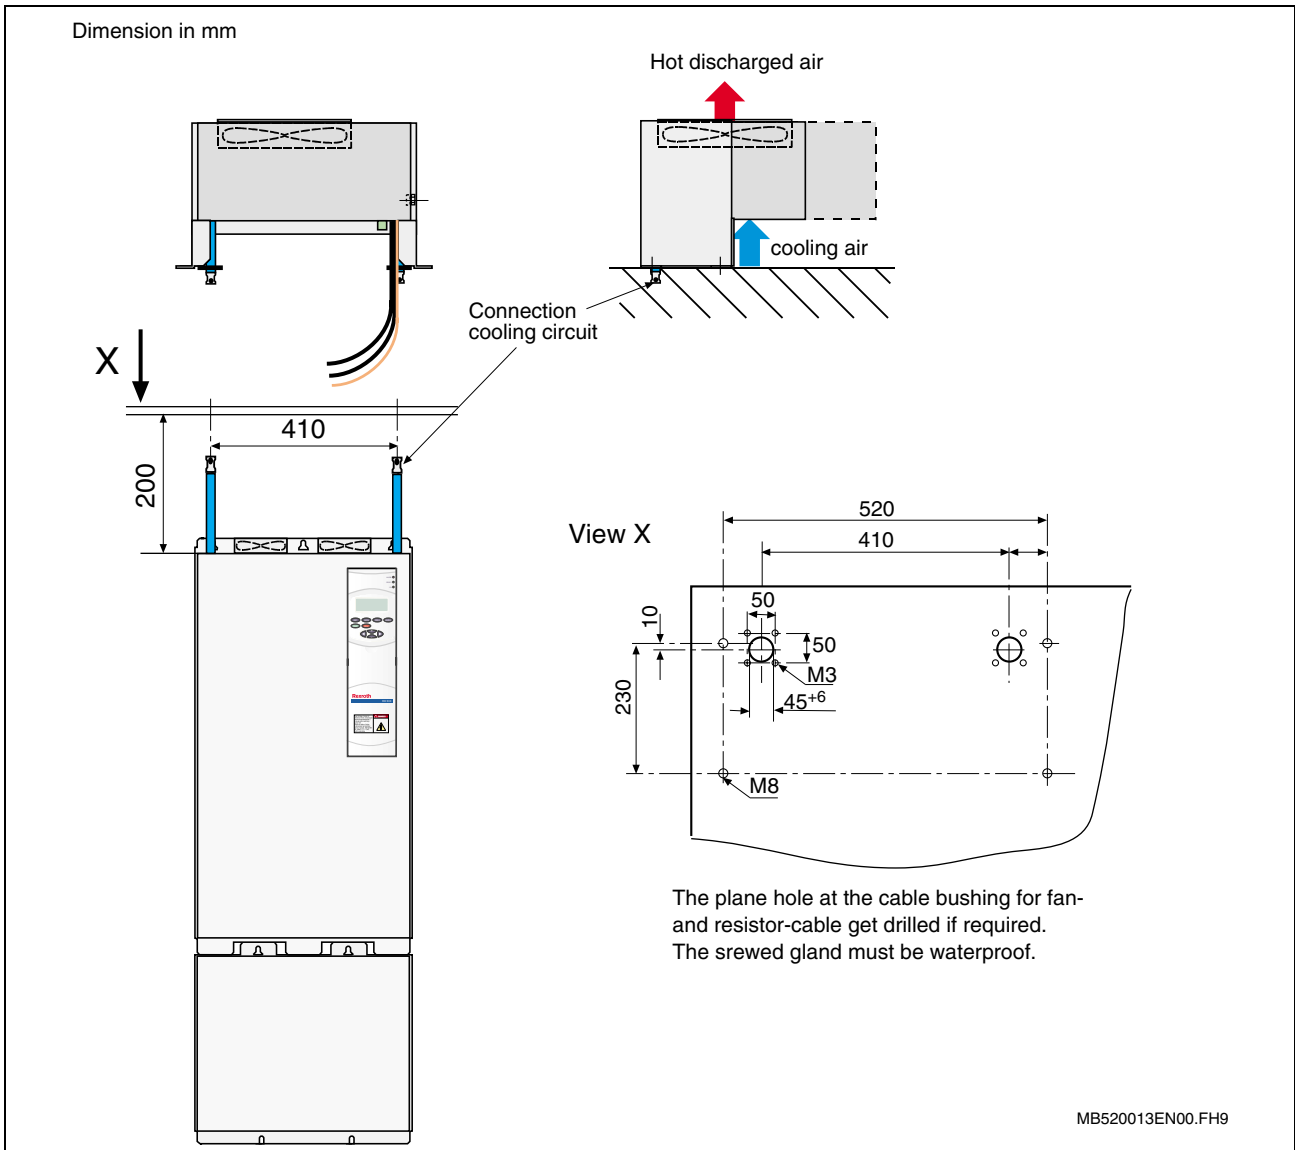
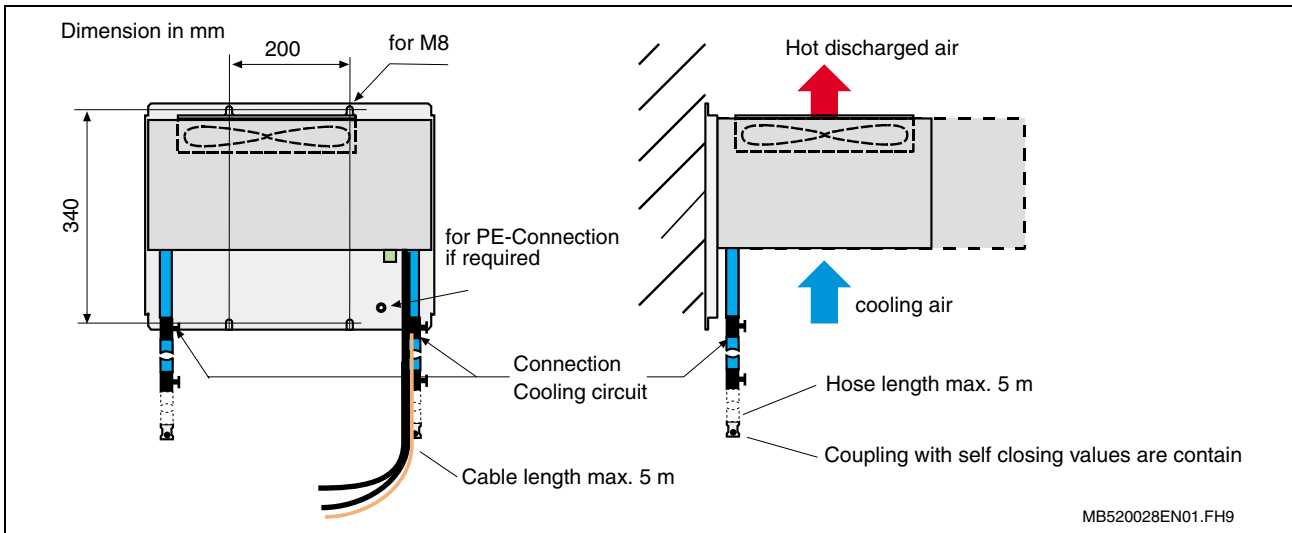

Fig.: 3-51 Dimension sheet for cabinet roof mounting, size class G
Fig.: 3-53 Dimension sheet for wall mounting
- Attach the external heat exchanger to the desired location. This can be mounted on the roof or wall of the cabinet. See Fig.: 3-51 Dimension sheet for cabinet roof mounting, size class G Fig.: 3-53 Dimension sheet for wall mounting. Additional technical data are described in documentation DOK-RD500*-RD500*SUPPL-FKxx-EN-P (Accessories).